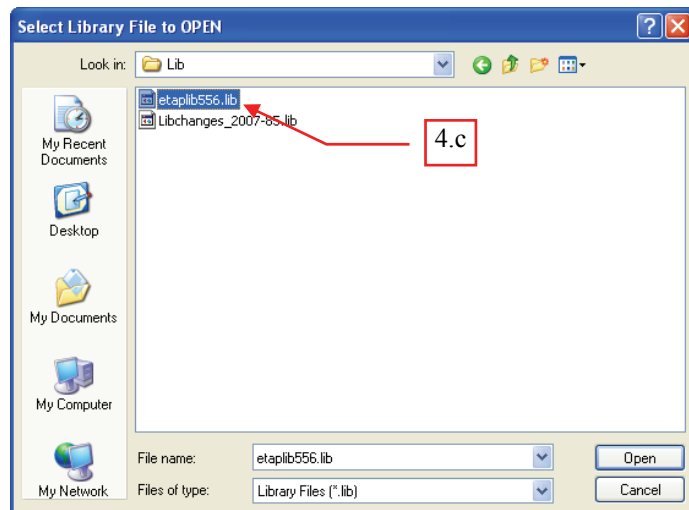

Fig. 4
- c. Browse the “etaplib55X.lib” library file located at “Y:\ETAP 55X\Lib” folder. See Fig. 4.